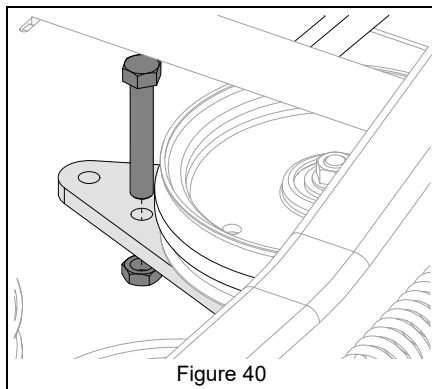

Figure 40
6. Remove belt retainer from idler arm. See Figure 40.
4. Reinstall belt retainer to idler arm. See Figure 40.